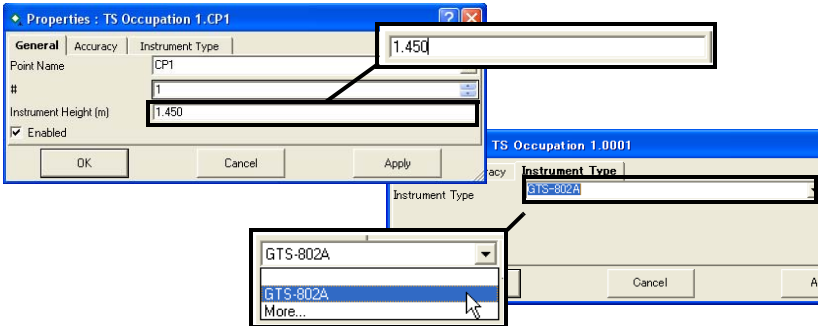

Figure 5-82. Enter New Parameters for TS Occupation
3. On the *General* tab, edit the height of the instrument as needed (Figure 5-82).
4. On the *Instrument Type* tab, edit the type of instrument used as needed (Figure 5-82).